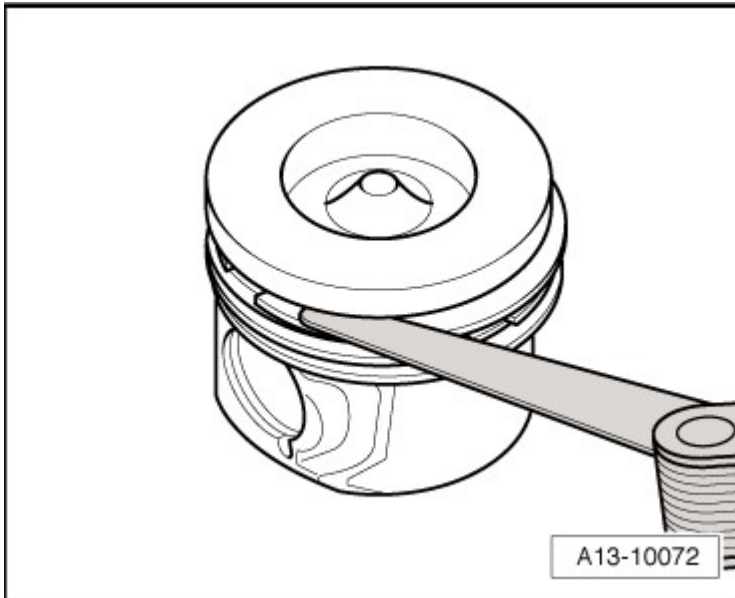

Fig. 14: Piston Ring Groove Clearance, Checking
- Measuring side clearance, refer to **Fig. 14**